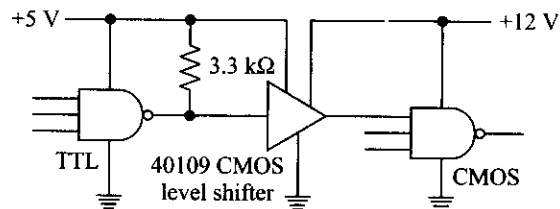

Fig. 14.41 CMOS level shifter allows the use of 5-V and 12-V supplies
Figure 14.41 shows a 40109, called a *level shifter*. The input stage of the chip uses a supply voltage of +5 V, while the output stage uses +12 V. In other words, the input stage interfaces with TTL, and the output stage interfaces with CMOS.
In Fig. 14.41, a standard TTL device drives the level shifter. This produces active TTL pull-up to at least +2.4 V. Beyond this level, the pull-up resistor takes over and raises the voltage to +5 V, which ensures a valid high-state input to the level shifter. The output side of the level shifter connects to +12V (this can be changed to any voltage from 3 to 15 V). Since the CMOS load runs off of +12 V, it has better propagation delay time and noise immunity.
23. What is the purpose of the 3.3-kΩ resistor in Fig. 14.41?